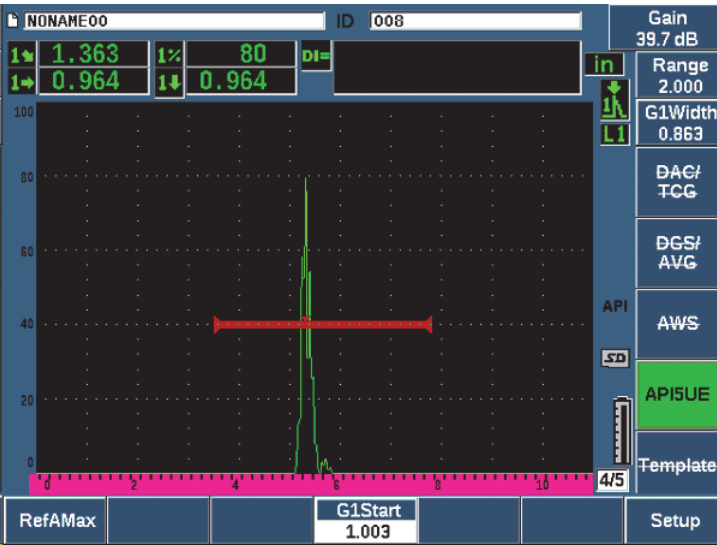

Figure 11-25 Storing the $A_{\max}$ point
6. Press **RefAMax** (P1) to store the $A_{\max}$ point, and then press **RefAMax** again to confirm (see Figure 11-25 on page 274).